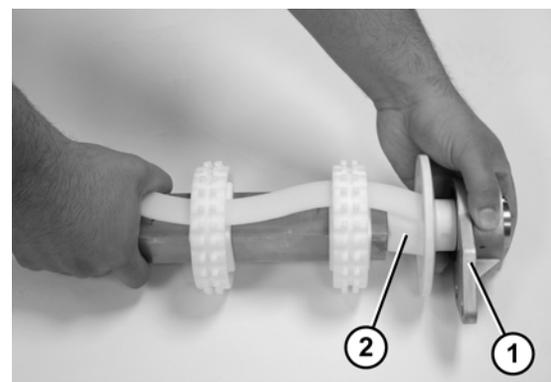

Figure 74
4. Attach the flanged pucks (Figure 74, item 1) and the 3 hole flange with bearing (Figure 74, item 2) to the drive spindle.